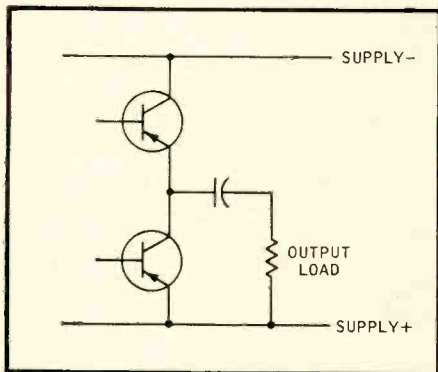

Fig. 1. A simple output circuit that can easily embody the Class-D or two-state modulation operation, used for considering what happens.
The first concept of Class-D or two-state can be illustrated by means of a hypothetical single-ended push-pull output stage (Fig. 1). Without bothering to go into details about how the modulation might be achieved, a sinusoidal (or any other waveform) output is synthesized by switching the transistors at ultrasonic frequency, varying the
Fig. 2. Waveforms associated with using the output of Fig. 1 in two-state mode: (A) at quiescent, when average voltage is set at middle by equal "up" and "down" times; (B) longer duration of "up" yields a resultant average that is "up"; (C) similar for "down".